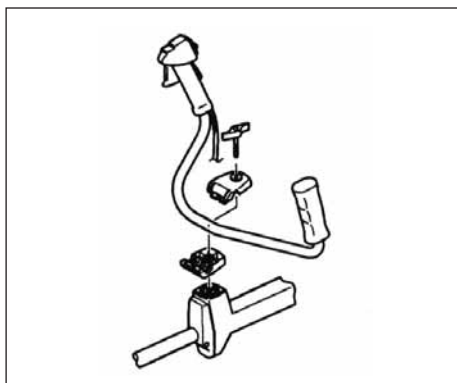

Fig. 1-2B
#### NOTE for CG47EY (T) (Fig. 1-2B, 2C)